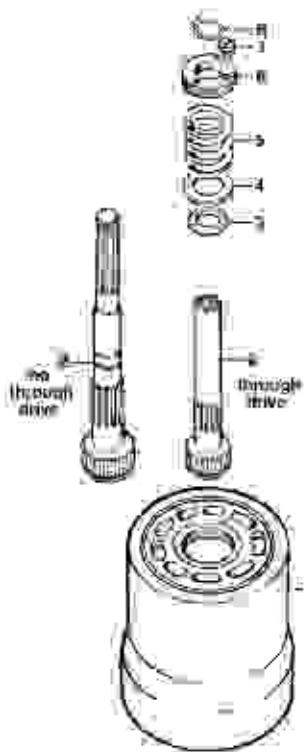

FIGURE 4
See Figure 4: Install auxiliary shaft (2) large spline end first into counterbore in face of barrel spline.
PARTS LIST FOR FIGURE 4 (P24)
Replace retaining ring (8) figure 4.
After seal is replaced re-install retaining ring (8) figure 4 and reassemble auxiliary pump and unit per assembly instructions.